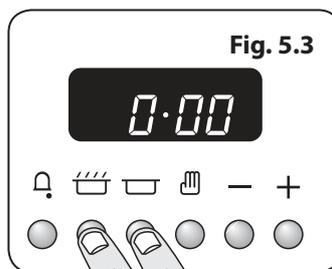

Fig. 5.3
- Press and hold both the [🍲] and [👉] buttons down (Fig. 5.3). Now press the [+] button (or [-] button) until the correct time shows.